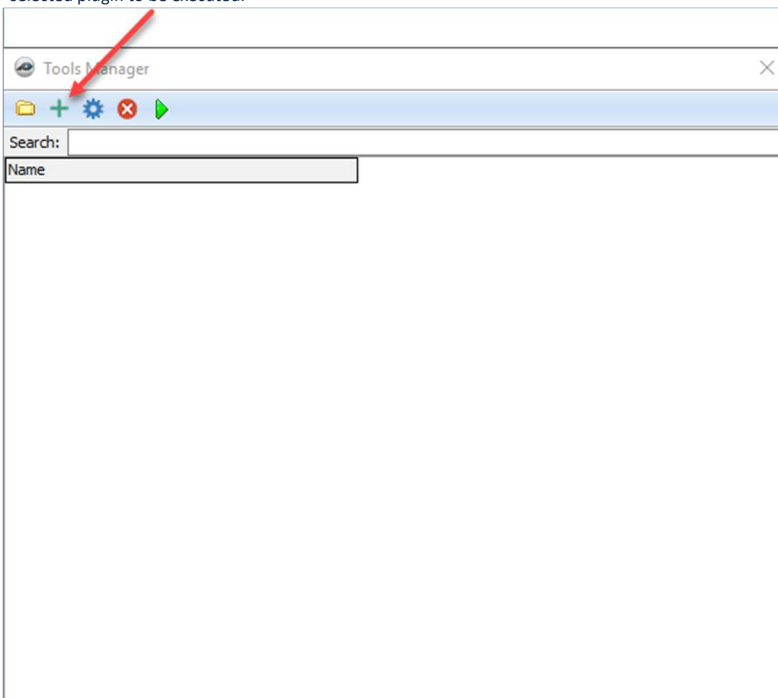

Figure 3
3. In the **Tools Manager** window (Figure 3), click on the green plus (+). Note that the yellow folder icon allows a new folder to be created for storage of plugins. The blue gear icon allows the viewing of properties for any plugin in the window below. The red "X" icon allows for a plugin to be deleted. The green triangular icon allows a selected plugin to be executed.